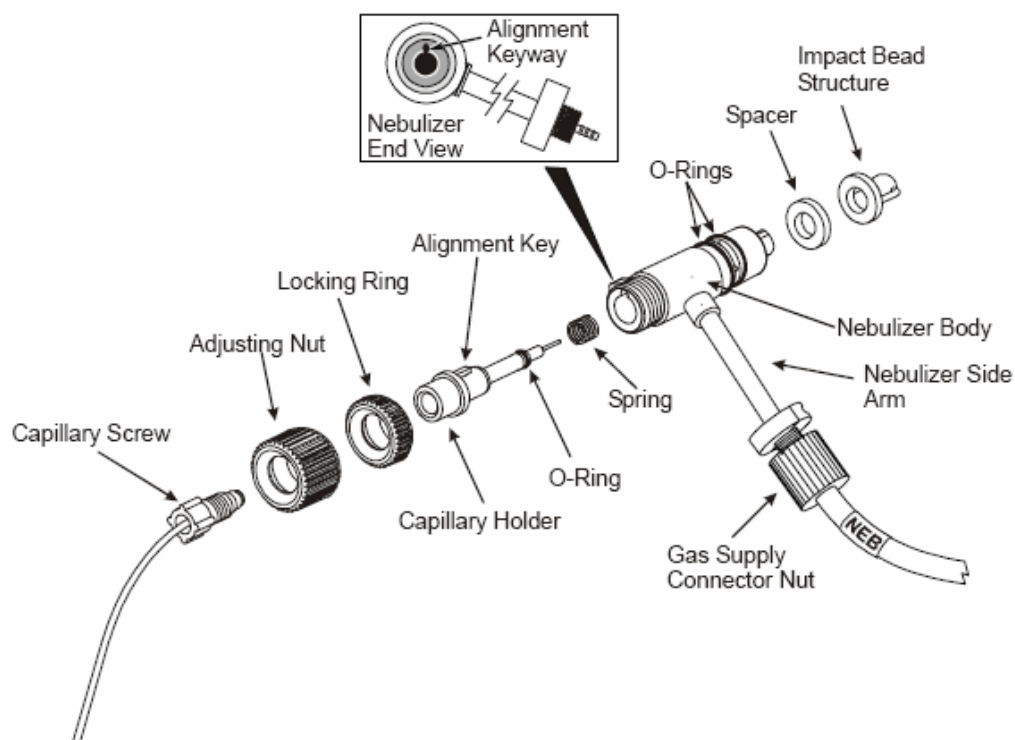

Figure 9- 13 Standard nebulizer assembly
7. Figure 9- 13 and loosen and then remove the adjustment nut (P/N N037-1492) and locking ring.
The bead structure mounts directly on the nebulizer's body assembly, see Figure 9- 14.